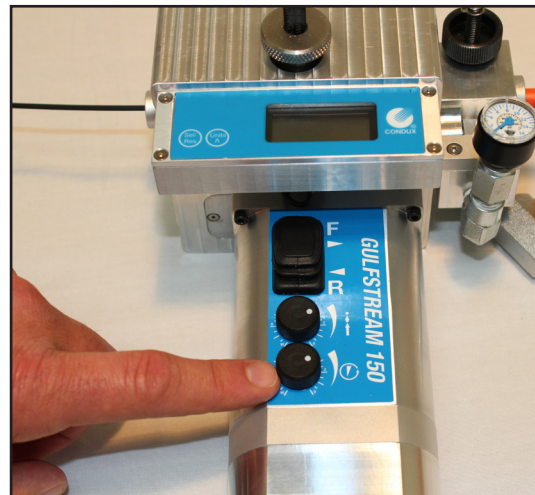

Figure 17. Adjust Speed Control
D. Adjust Speed – Use the Speed control knob to adjust the tractor drive speed to ensure smooth installation and match the amount of air pressure being used so that the forces are working together, not against one another. (See figure 17). Counterclockwise increases speed and clockwise decreases speed.